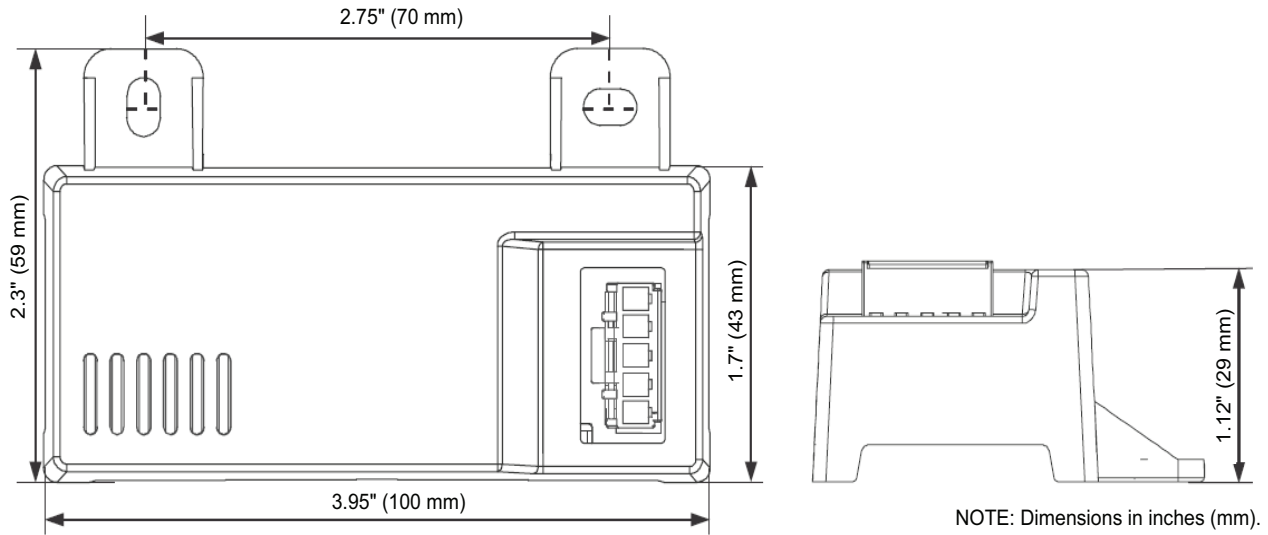
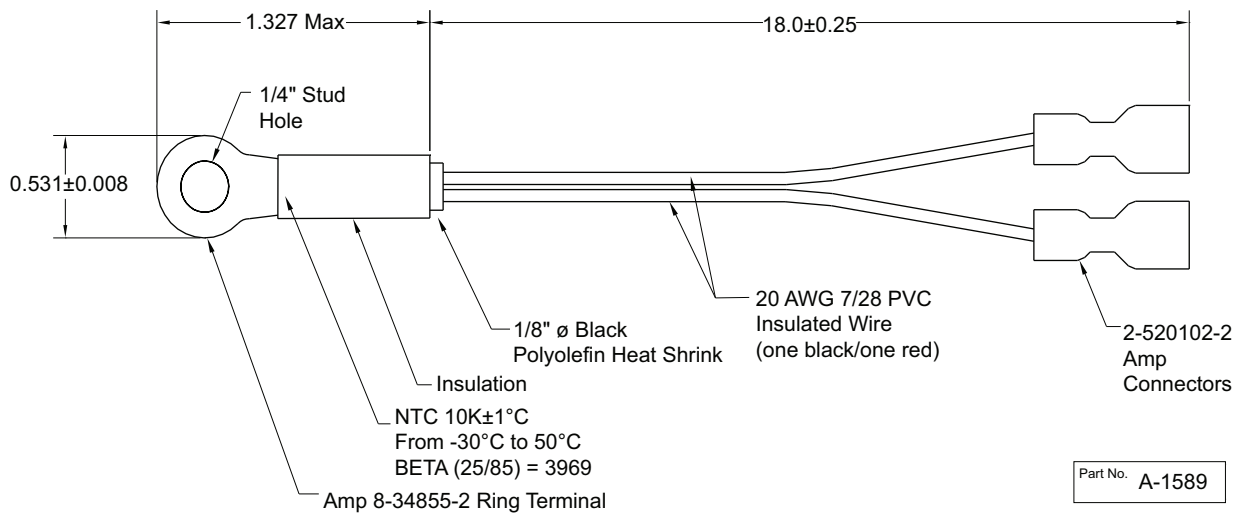
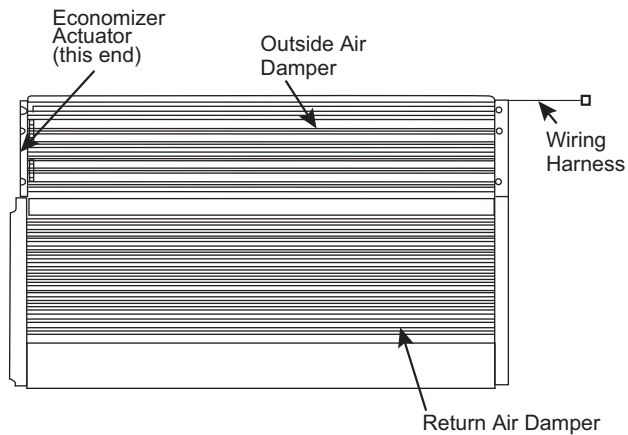

Fig. 74 — HH57LW001 Dimensional, Connection and Switching Information
Fig. 75 — HH79NZ039 Dry Bulb and Mixed Air Sensor Wiring
Fig. 76 — EconomizerONE System Component Locations
When using the HH57LW001 enthalpy sensor (see Fig. 74) for outside air changeover, the existing HH79NZ039 dry bulb sensor (see Fig. 75) must be removed. The enthalpy sensor will be mounted in the same location as the dry bulb sensor (see Fig. 76). When the enthalpy sensor's OA (Outside Air) temperature, enthalpy, and dew point are below their respective set points, outside air can be used for free cooling. When any of these are above their set point, free cooling will not be available. Enthalpy set points are configurable and create an enthalpy boundary according to the user's input. For additional details, see Fig. 77-78 and Table 25.
The optional enthalpy control sensor (P/N: HH57LW001) communicates with the POL224 economizer controller using the 5-wire harness, 48TC005213. The HH57LW001 sensor can be used as a single outside air enthalpy, a differential return enthalpy, or a differential return temperature sensor. Refer to the base unit control wiring diagrams found earlier in this book to wire the HH57LW001 enthalpy sensor for each option. See Fig. 74 and Table 27 on page 56 to locate the wiring terminals for each enthalpy control sensor.
Economizers are shipped standard with an HH79NZ039 outside air dry bulb sensor (refer to Fig. 75). System default setting (high temp limit) is 63°F (17°C) and has a range of 48°F to 80°F (9°C to 27°C). Sensor is factory installed on economizer.
If installing the optional HH57LW001 enthalpy sensor, the HH79NZ039 dry bulb outside air sensor must first be removed. Wire sensor to harness 48TC005213 and the (5) wires from the harness to the EconomizerONE harness in the return air chamber. Harness 48TC005213 has a 5-pin plug that connects directly to the HH57LW001 enthalpy sensor. Refer to the base unit control wiring diagrams earlier in this book for wiring connections. Refer to Fig. 74 and see Table 27.